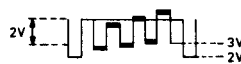

Fig. 2
- c. Adjust the brightness control until the level of the black bar in the video signal is at 3 V (refer to Fig. 2).
Connect an oscilloscope or an HF millivoltmeter as shown in Figure 2.